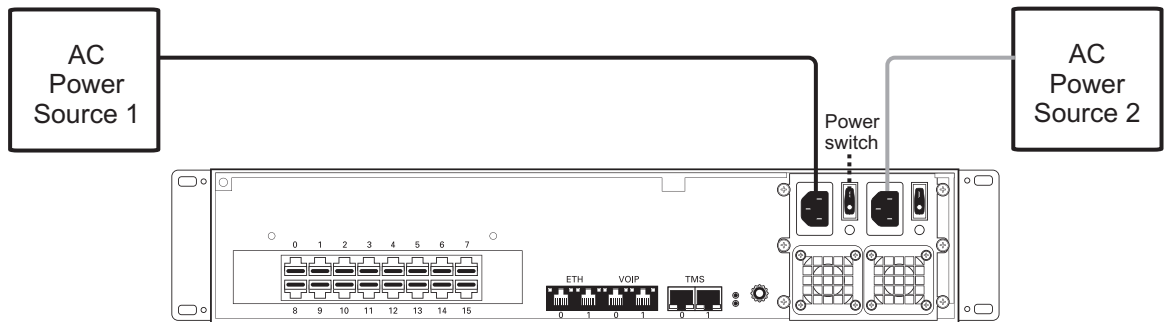

Figure 2.9 3200 Series Gateway AC Power Connection
1. Connect an AC power cable between the AC connector of the TMG3200 and an AC supply. See Figure 2.9 on page 26.
**Note** If the 3200 series gateway features a second power supply and it is not connected to an AC power source, press the green button located at the rear of the unit to disable the audible alarm. See Figure 2.9 on page 26.